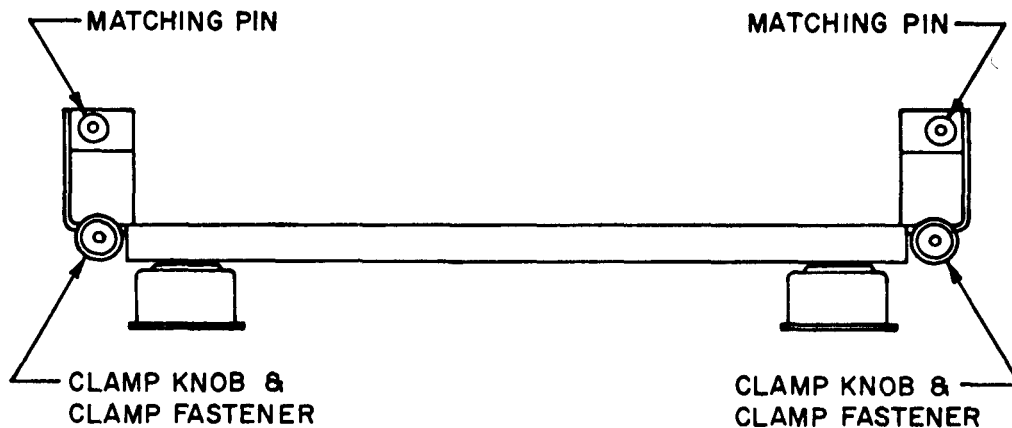

FIGURE 2-1
(1) Slide unit into shock mount (refer to Figure 2-1,) and position so that the two (2) pins on rear of the shock mount fit into the two (2) matching holes on the rear of the unit.